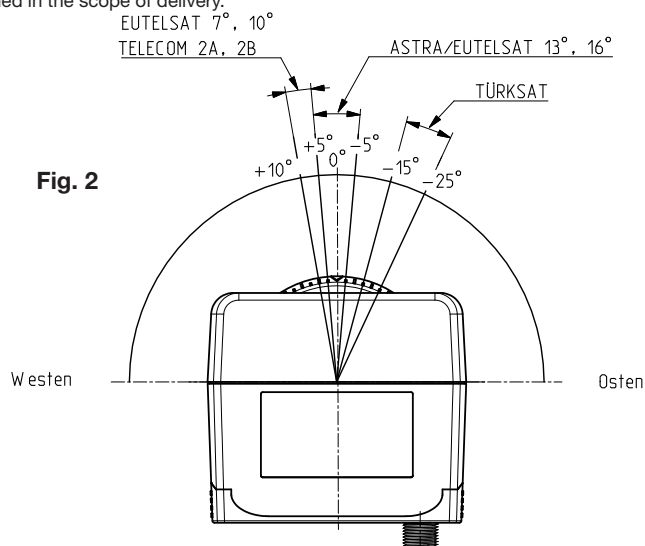

Fig. 2
2. See Abb. 2 for the polarisation setting angle.